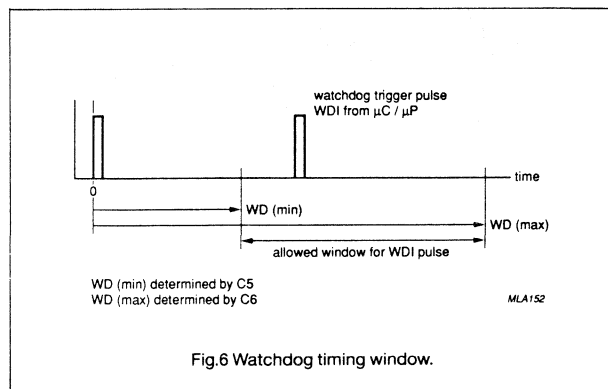

Fig.6 Watchdog timing window.
The watchdog input pulse (WDI) from the $\mu C/\mu P$ must be received within a time window determined by external capacitors C5 and C6. When this is not achieved the watchdog output stage generates a \overline{WRO}/WRO pulse with fixed width of 40 μs . Each rising edge at WDI restarts the timing cycle (see Figs 6 and 19). To operate, this watchdog function must first be switched on by the enable input (EN).